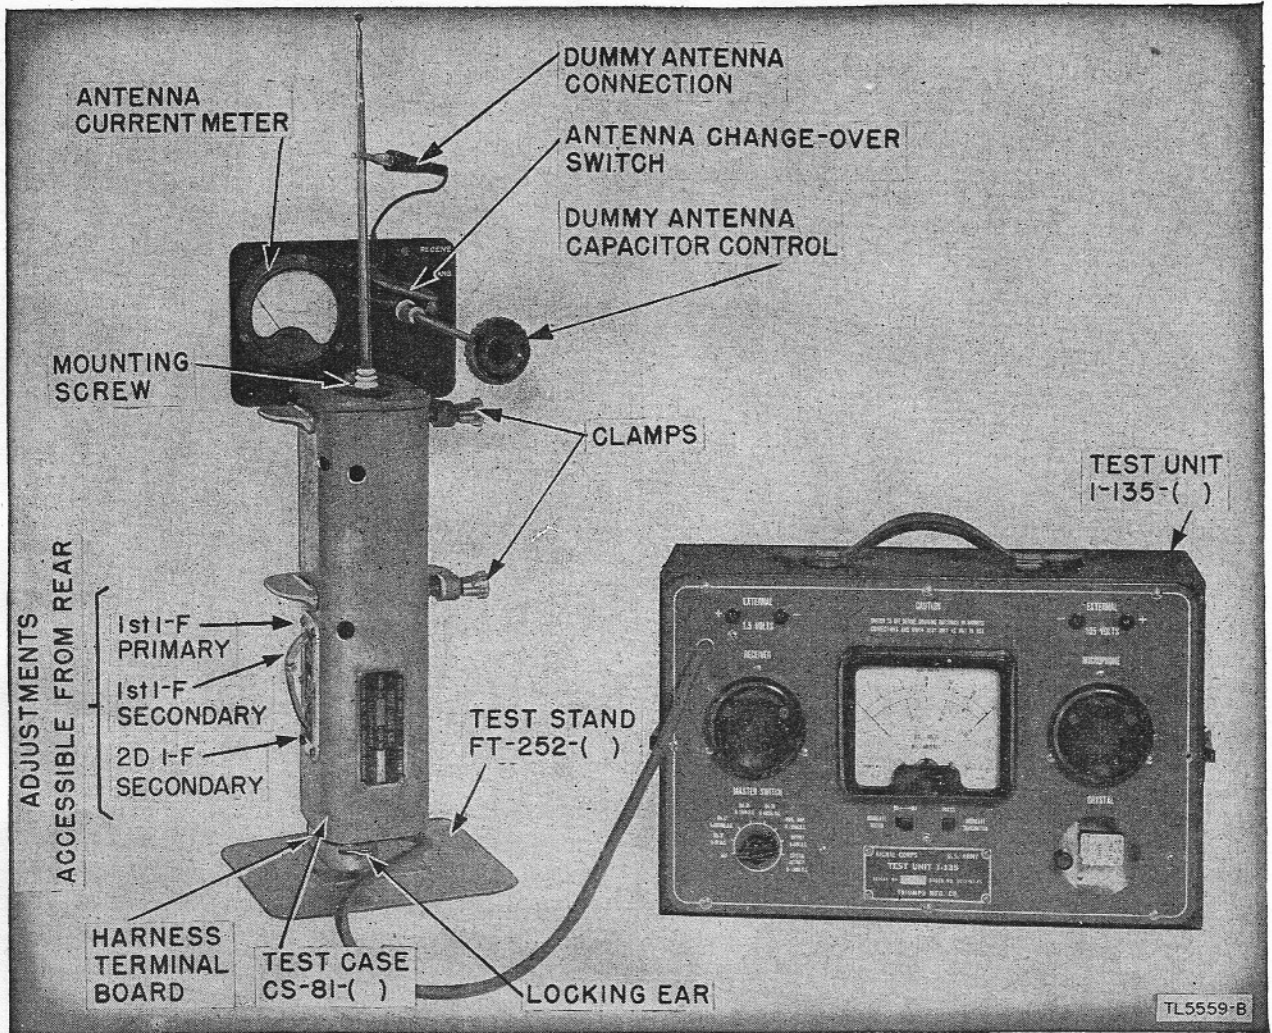

Figure 61. Test Equipment IE-17-(), set up.
b. COMPONENTS. Test Equipment IE-17-() consists of the following components (fig. 61):